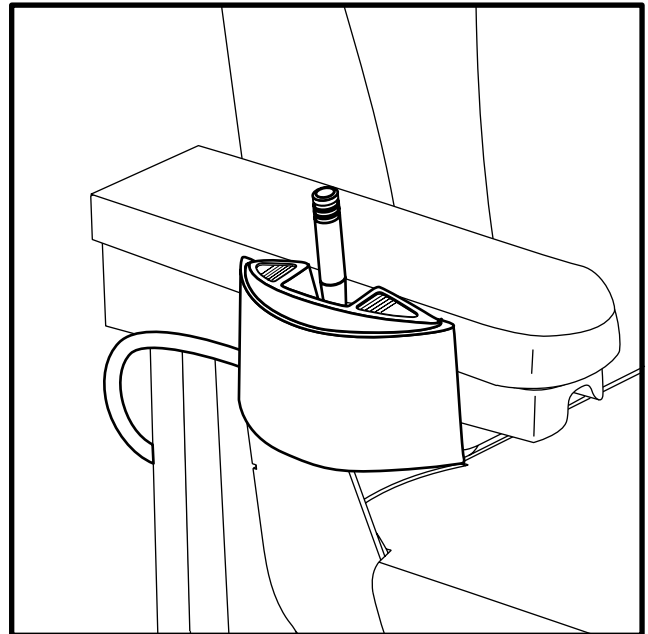

Figure 28. Power Seat Toggle Switch
1. Press forward on the toggle switch to raise the seat. See figure 28.